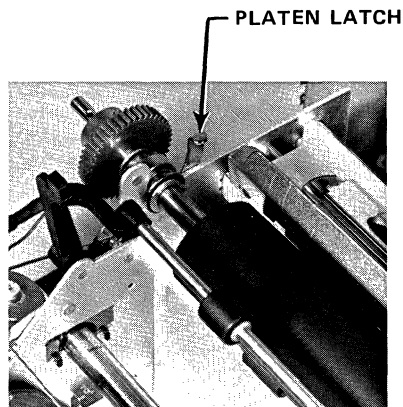

Figure 4-3. PLATEN LATCH LEVER
- 3) Depress the platen latch lever (Fig. 4-3) at each end of the platen, and lift the platen out of the printer.